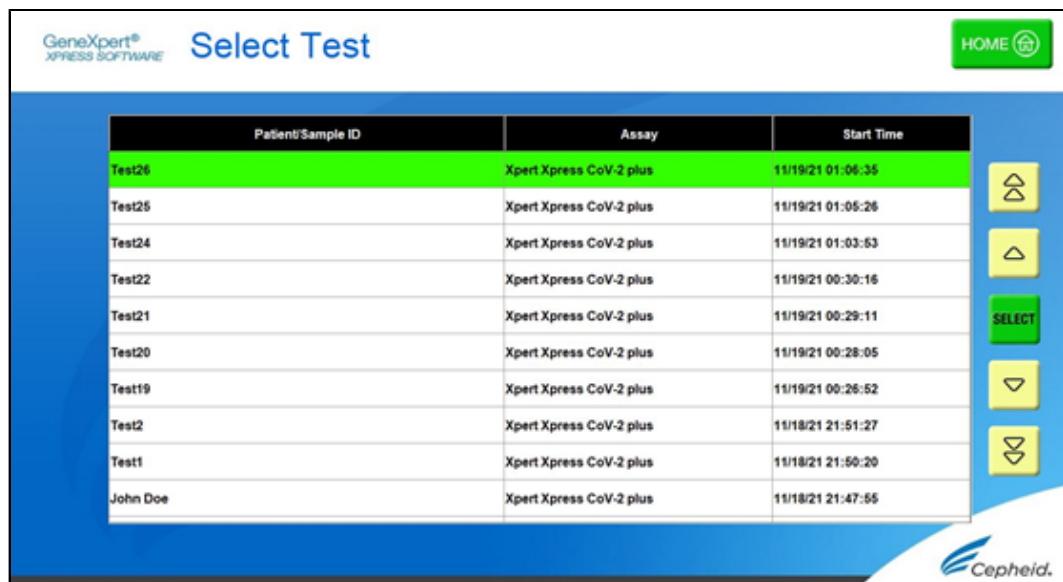

Figure 14. SELECT button
3. Touch the **SELECT** button shown in Figure 14 to view results.